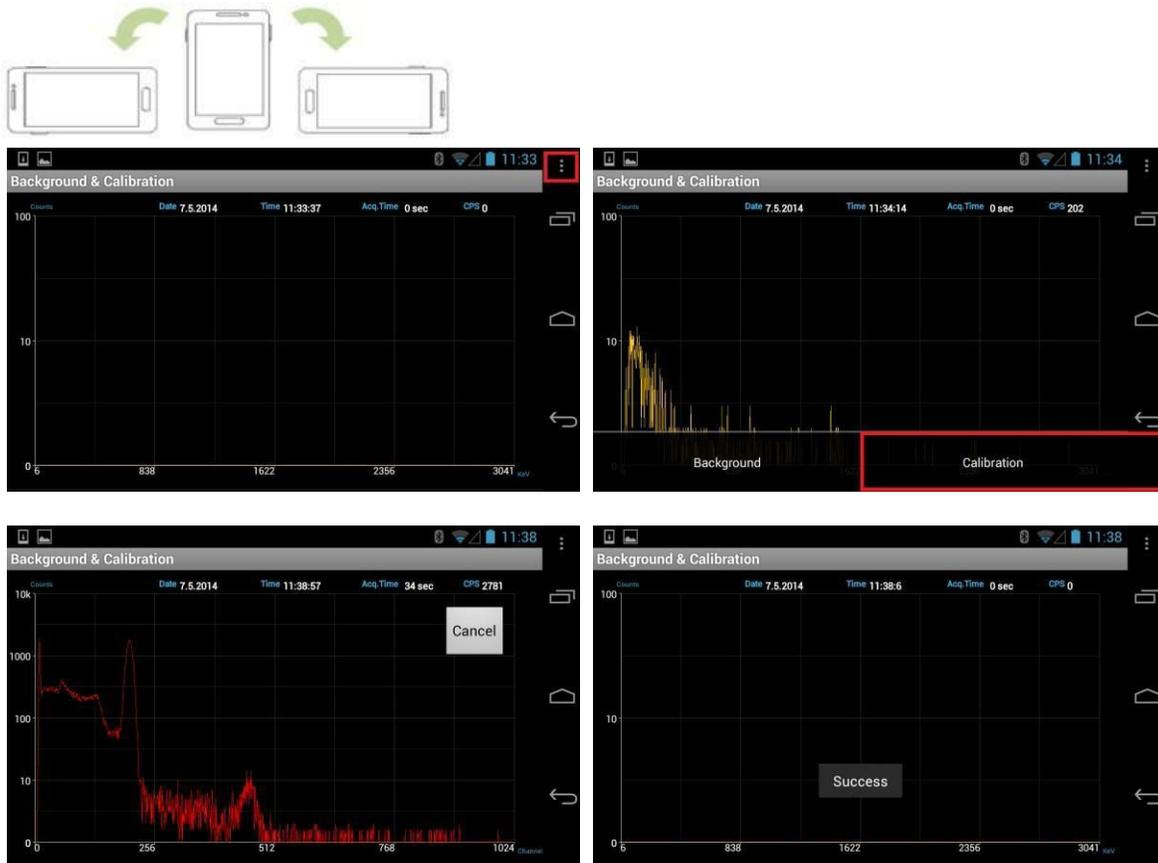

Figure 4.13. Manual calibration example
1. With PeakAbout in Setup mode, rotate the screen 90° to initiate Background & Calibration mode (Figure 4.13).
When the selected number of counts have been acquired, the screen will display “Success” (Figure 4.13). The x-axis units change from channel number to energy (in keV). Remove the Cs-137 source.